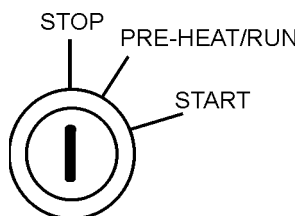

Figure 57. Ignition Switch (Off Position)
4. Place the ignition switch (Figure 57) in the **STOP** position, remove the key and store in a safe place.